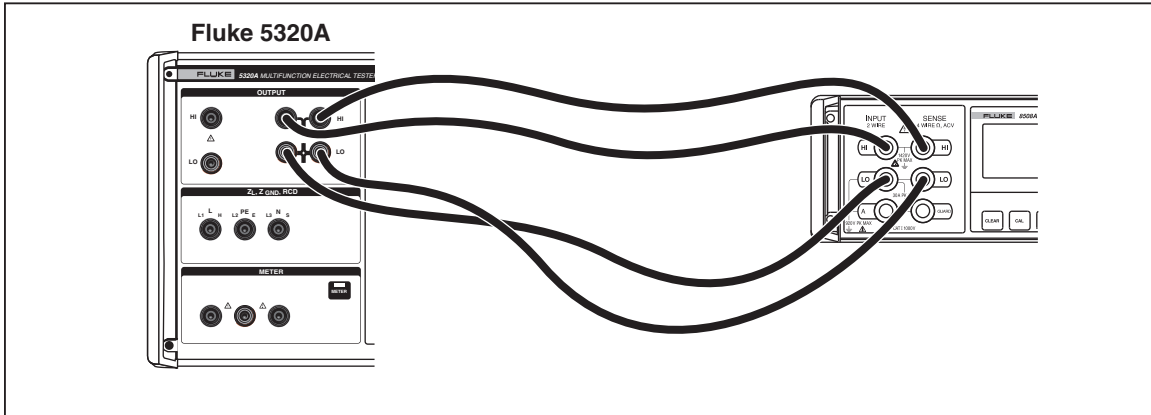

Figure 6-1. Low Resistance Calibration Connections
1. Connect the low resistance source output to a standard multimeter as shown in Figure 6-1. Use a 4-wire connection and setup the multimeter for a 4-wire ohms measurement.